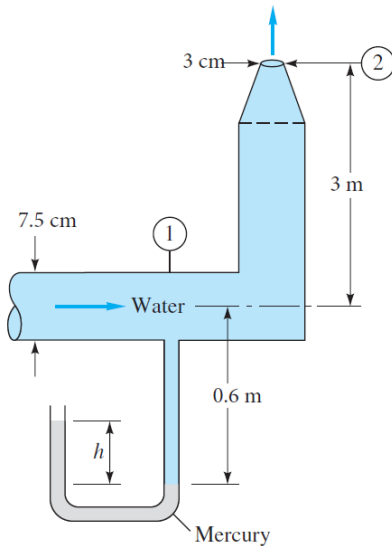

Fig. 3.19
3.19 In Fig. 3.19 both fluids are at 20°C. If $V_1 = 0.5$ m/s and losses are neglected, what should the manometer reading h m be?